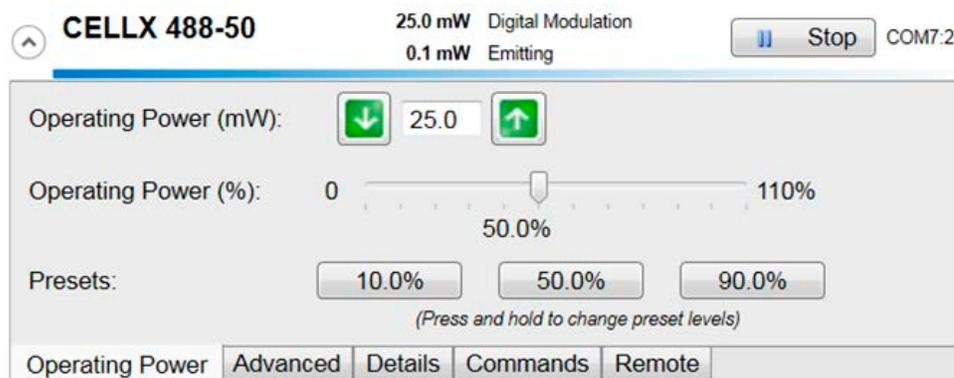

Figure 5-5. Adjust Operating Power
- After the Operating Mode is selected for the desired individual laser, click the Operating Power tab, as shown in Figure 5-5: